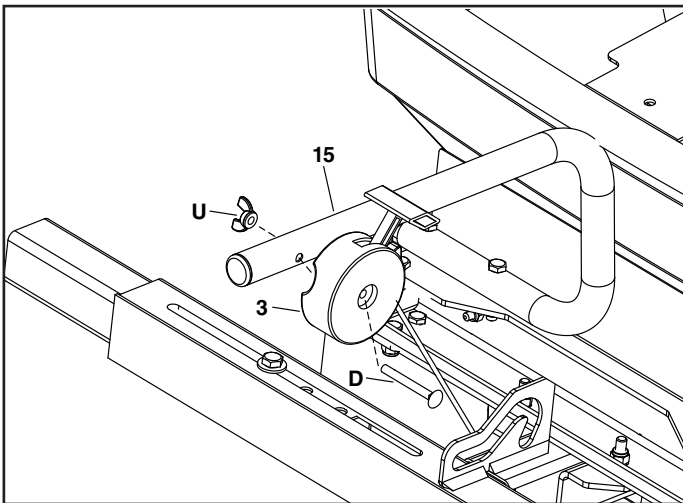

FIGURE 17
STEP 17: (SEE FIGURE 17)
- Line up the control cable housing (3) with the control mount tubes (15) hole. (Close to the end of the tube.)
- Install one carriage bolt (D) through the housing and the tube. Secure with one nylon wing nut (U).